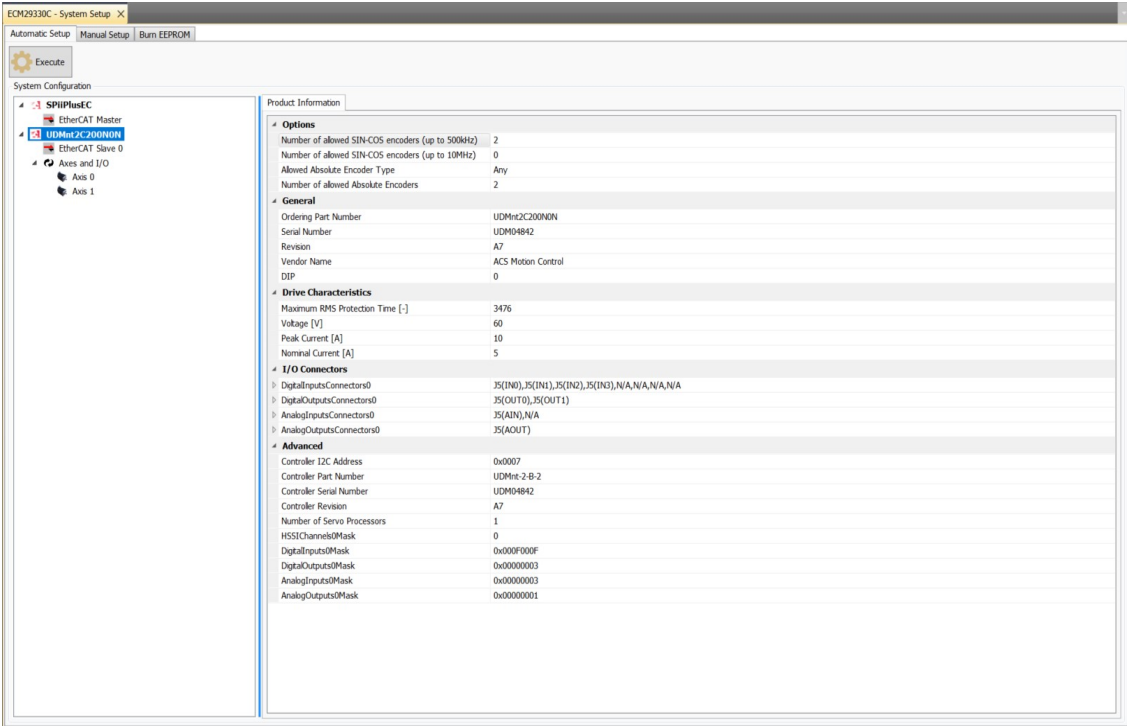

Figure 5-3. System Configuration After Automatic Setup
3. Upon completion of the system setup, the **System Configuration** and **Product Information** panes are filled in (see Figure 5-3).